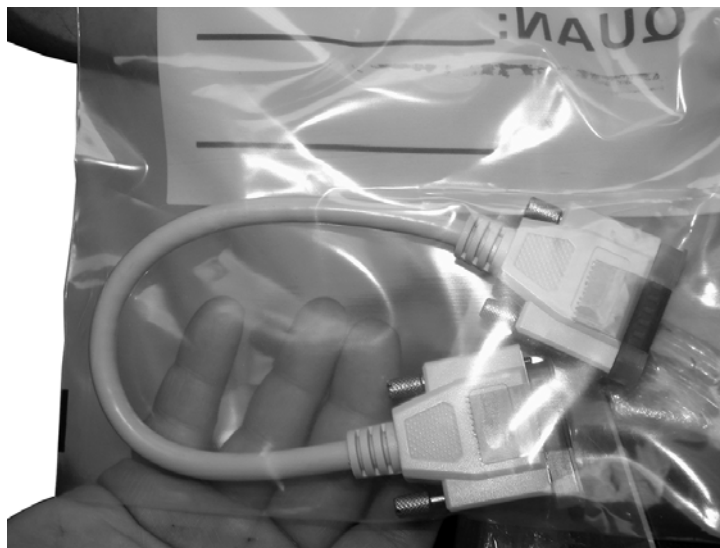

Figure 4-18. RF Power Module System Cable
12. Locate and remove the sealed plastic bag containing the RF power module system cable (Figure 4-18).